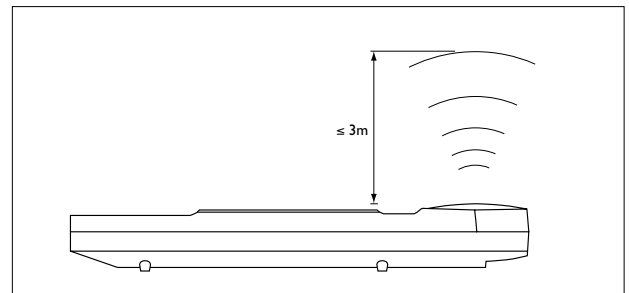

Figure 3: Radiation pattern in "teach mode"
1. When transmitting in "teach mode", the infrared radiation pattern of the IRT8030 is reduced to a narrow beam, in order to achieve selective programming of luminaires or controllers. Therefore the transmitter must be pointed directly at the receiver and the distance from transmitter to receiver must be less than 3 meters. (See figure 3)